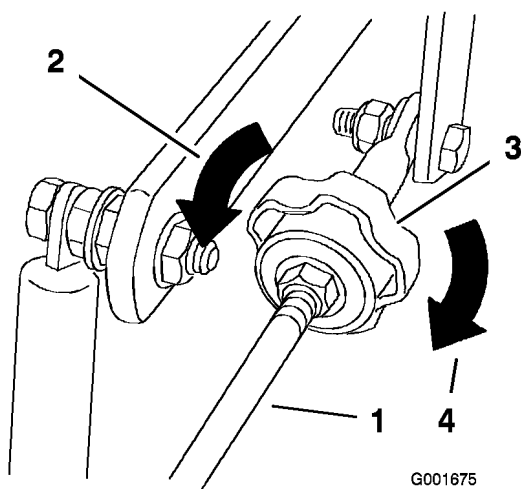

Figure 39
4. To make the machine go right, turn the knob towards the rightside of the machine. Refer to Figure 39.
5. To make the machine go left, turn the knob towards the leftside of the machine. Refer to Figure 39.